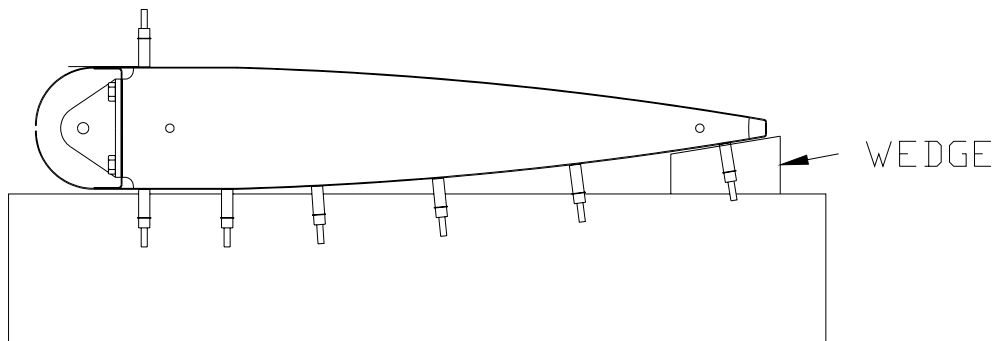

Figure 3.3.2
- 3) Place two 2" x 4"s on the table. Turn the Skin and Spar assembly over onto the 2" x 4" so that the clecos do not interfere with the table. Figure 3.3.2. Cleco the Skin to the ribs using the guide hole.